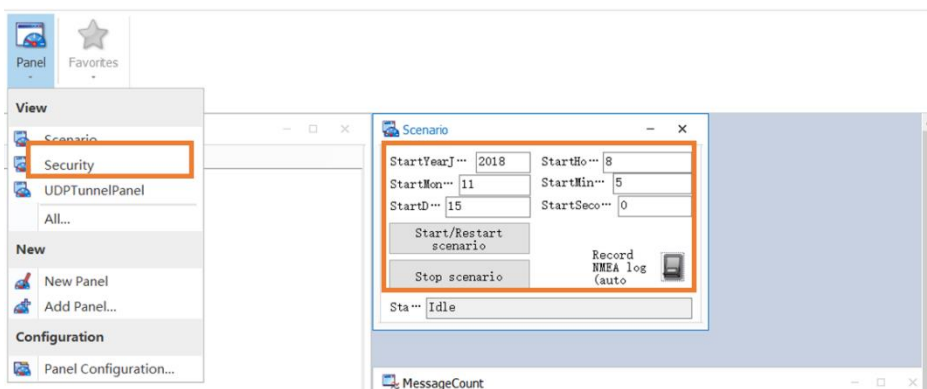

Figure 20: configure GNSS parameter
- ▶ Run the CANoe program and open the Scenario front panel. Configure the start time of GNSS simulation, as shown in the example (Figure 20)
- ▶ Open your project with the CANoe software. Start the Scenario Manager tool and import the previously constructed C-V2X scenario file : ICW Scenario (Temp).scn (Figure 20)